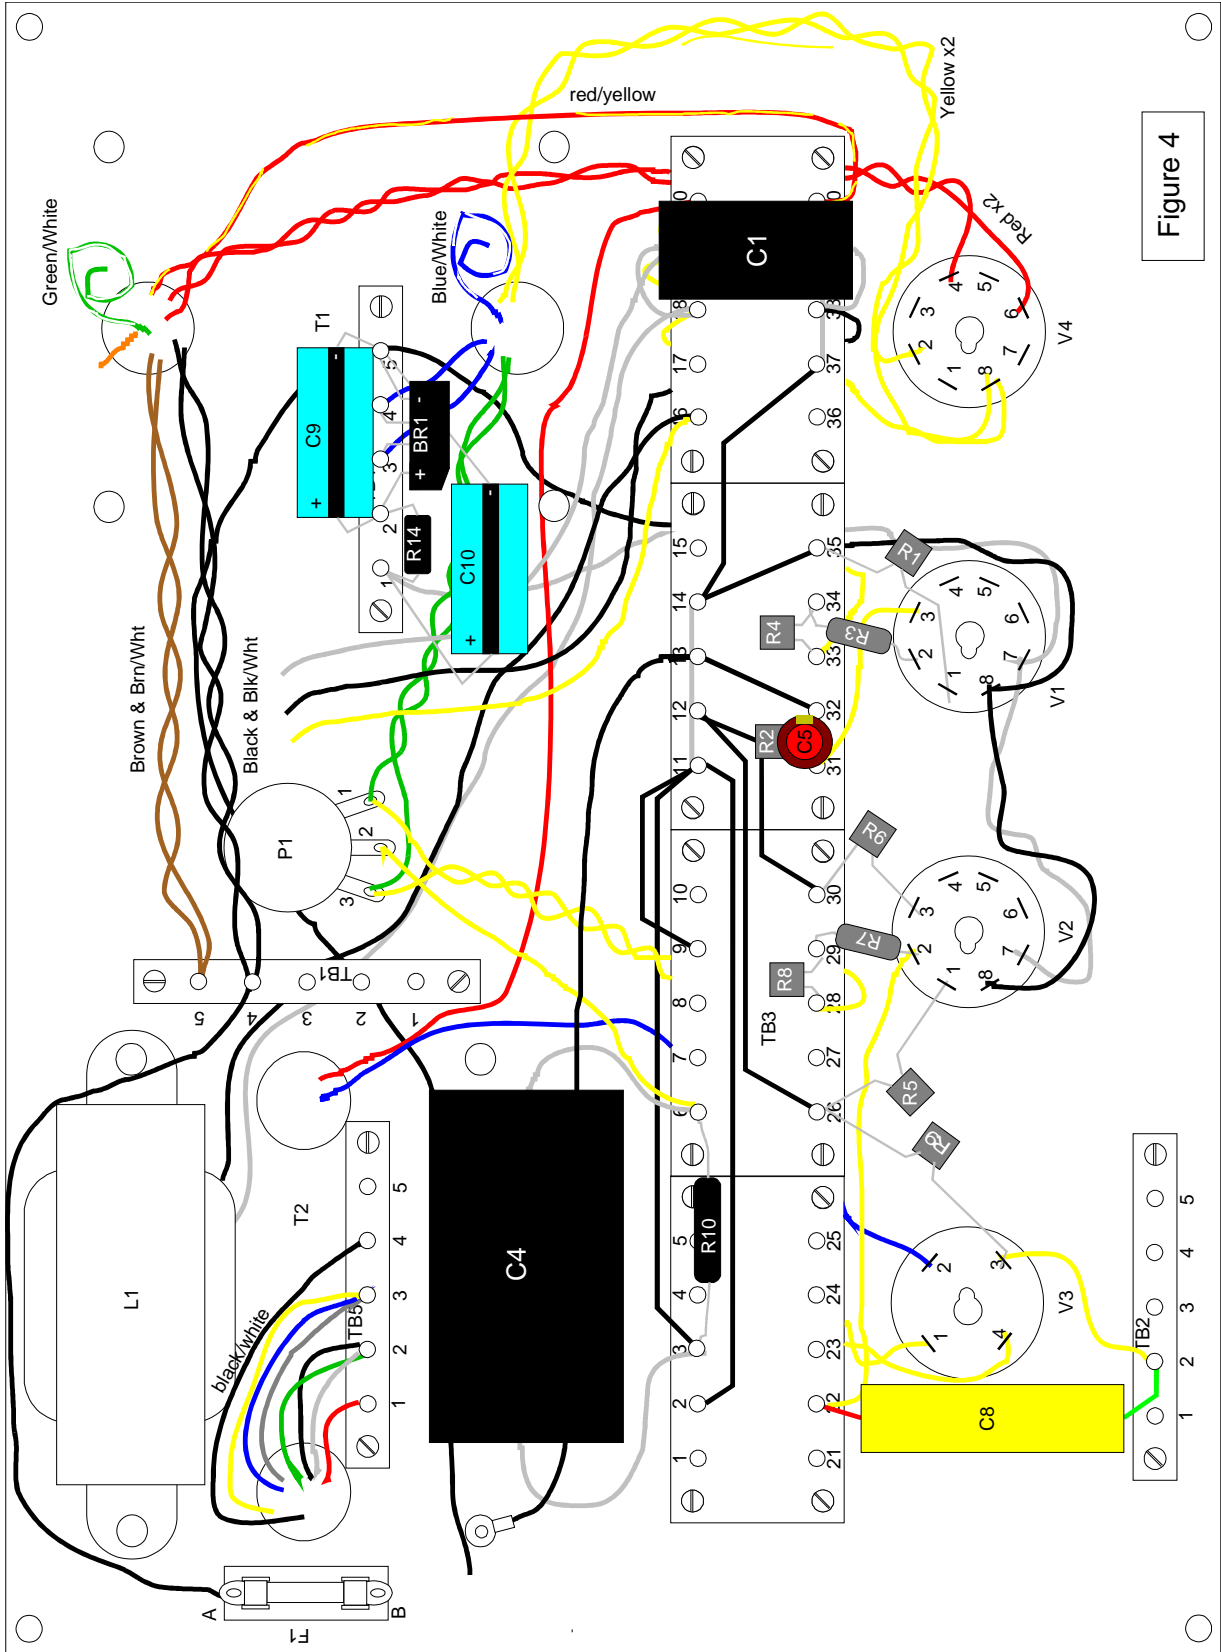

Figure 4
8. Refer to figure 4 for the following construction steps.
Mount capacitor C1 as shown in figure 4 and solder one lead of the capacitor to TB3-18 and the opposite lead to TB3-38. Note that capacitor C1 has no polarity.
Position resistor R5 as shown in figure 4 and solder one lead wire to TB3-26 and the other lead wire to V2-1.
Position capacitor C8 as shown in figure 4 and solder the red capacitor lead to TB3-22 and the green capacitor lead to TB2-2. (Note: The Jensen caps have no polarity)
Position resistor R8 as shown in figure 4 and solder one lead wire to TB3-28 and the other lead wire to TB3-29.
Position resistor R7 as shown in figure 4 and solder one lead wire to TB3-29 and the other lead wire to V2-2.
Position resistor R6 as shown in figure 4 and solder one lead wire to TB3-30 and the other lead wire to V2-3.
Position resistor R2 as shown in figure 4 and solder one lead wire to TB3-31 and the other lead wire to TB3-32.
Position capacitor C5 as shown in figure 4 and solder the capacitor’s negative terminal (identified by the gold band) to terminal TB3-32 and the positive capacitor terminal to terminal TB3-31.
Position resistor R4 as shown in figure 4 and solder one lead wire to TB3-33 and the other lead wire to TB3-34.
Position resistor R3 as shown in figure 4 and solder one lead wire to TB3-34 and the other lead wire to V1-2.
Position resistor R1 as shown in figure 4 and solder one lead wire to TB3-35 and the other lead wire to V1-1.